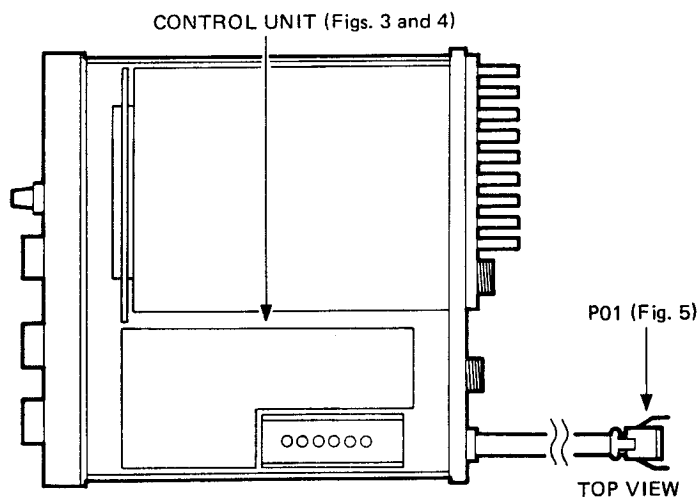

Figure 2
2. Referring to Figures 2 and 3, disconnect all wires and connectors from the Control Unit as described in the following steps: